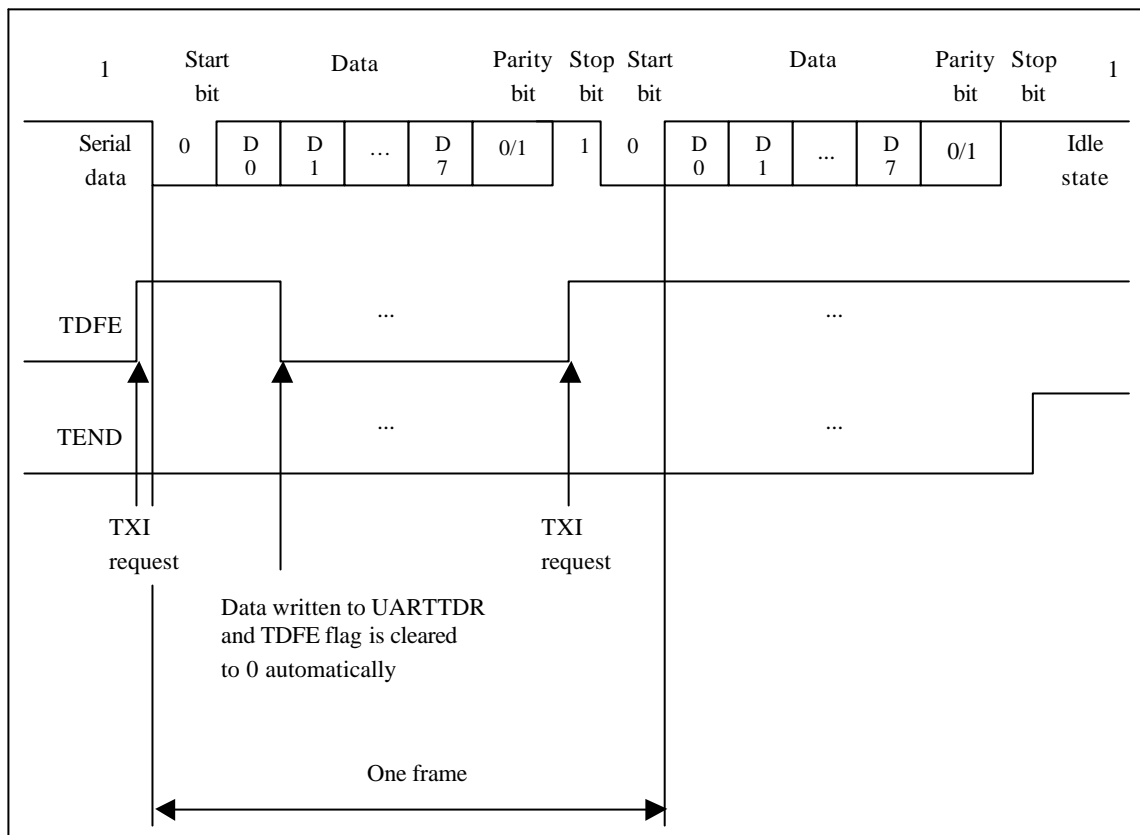

Figure 14-4 Sample of Transmit Operation with 8-bit data, 1 stop bit
3. Figure 14-4 shows an example of the operation for transmission in asynchronous mode.